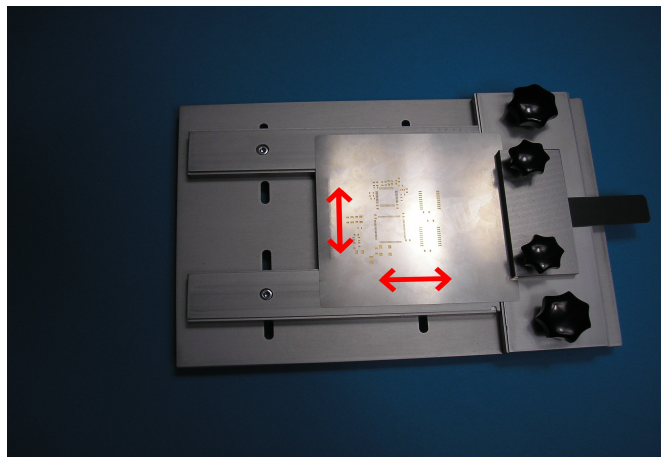

Abb. 6
- 9) Adjust the stencil by moving the stencil on the PCB. Make sure that all pads are correctly adjusted at the edges of the PCB (Fig. 6).
- 14) Raise the stencil on the opposite side of the clamp plate enough to lift the stencil pad closest to the clamp F (Figure 6).